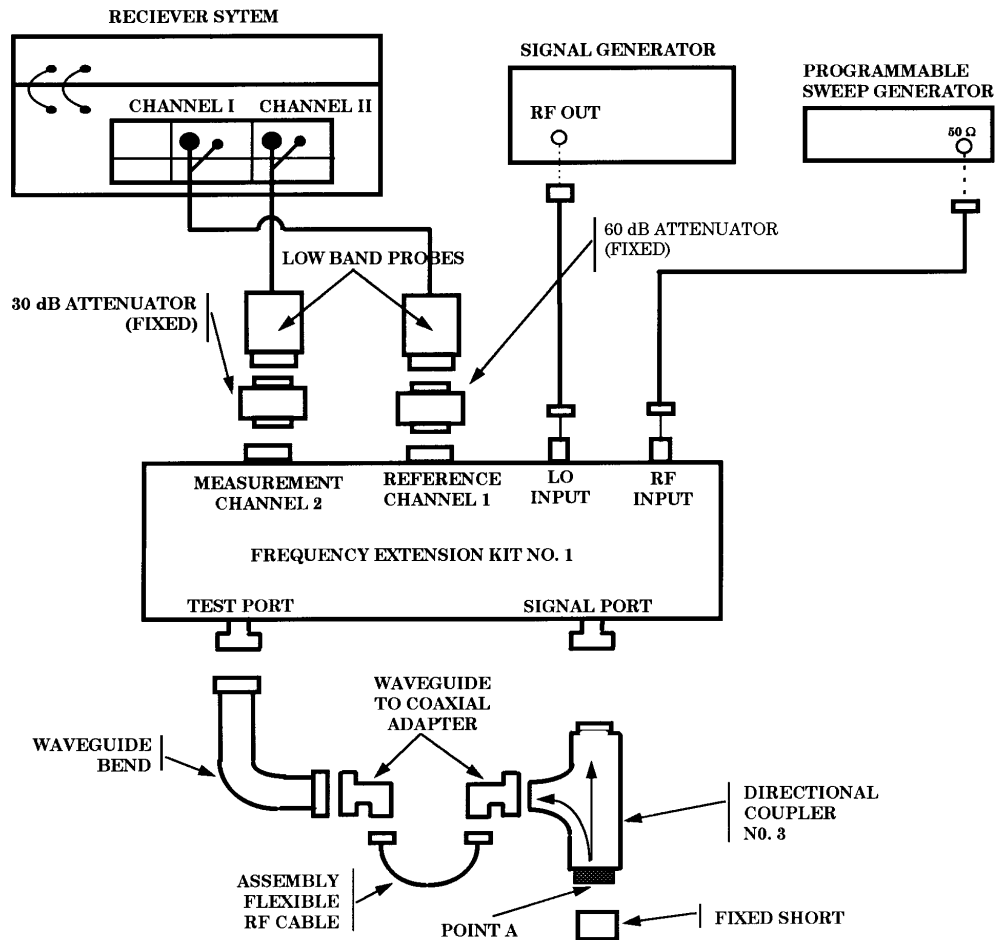

Figure 5. VSWR waveguide (18 to 26 GHz) - equipment setup.
(33) Repeat technique of (29) through (32) above 2 more times and average values.
(34) Determine VSWR using appendix B. VSWR will be within the limits listed in appendix A.
(35) Repeat technique of (26) through (34) above for remaining cardinal test point frequencies determined in **7c** above.
(36) Connect equipment as shown in figure 5 and allow equipment to warm up for 3 hours.
(37) Adjust programmable sweep generator CW-F1 frequency controls to first cardinal test point frequency determined in **7c** above.
(38) Adjust programmable sweep generator **LEVEL** output controls for +3 dBm.
(39) Determine signal generator frequency (LO) required for the desired measurement by calculating the following equation:
(42) Disconnect fixed short from equipment setup in figure 5.
(43) Zero power meter No. 1 and connect TI to directional coupler No. 3, point A (fig. 5). Record receiver system readout indication as return loss.
(44) Remove TI from directional coupler and connect fixed short to directional coupler No. 3, point A (fig. 5).
(45) Repeat (41) through (44) two more times and average values recorded in (43) above. Determine VSWR using appendix B. VSWR will be within the limits listed in appendix A.